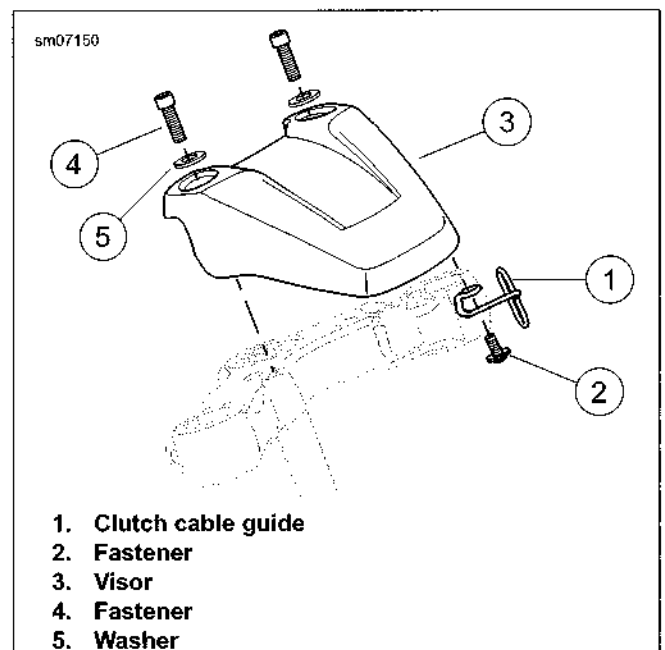

Figure 6-37. Headlamp Visor: XL 1200C/CP/CA/CB
1. See Figure 6-37. Install clutch cable guide (1) with fastener (2). Tighten to 45-65 in-lbs (5.0-7.3 Nm).
2. Install headlamp visor (3) with fasteners (4) and washers (5). Tighten to 120-192 in-lbs (14-22 Nm).